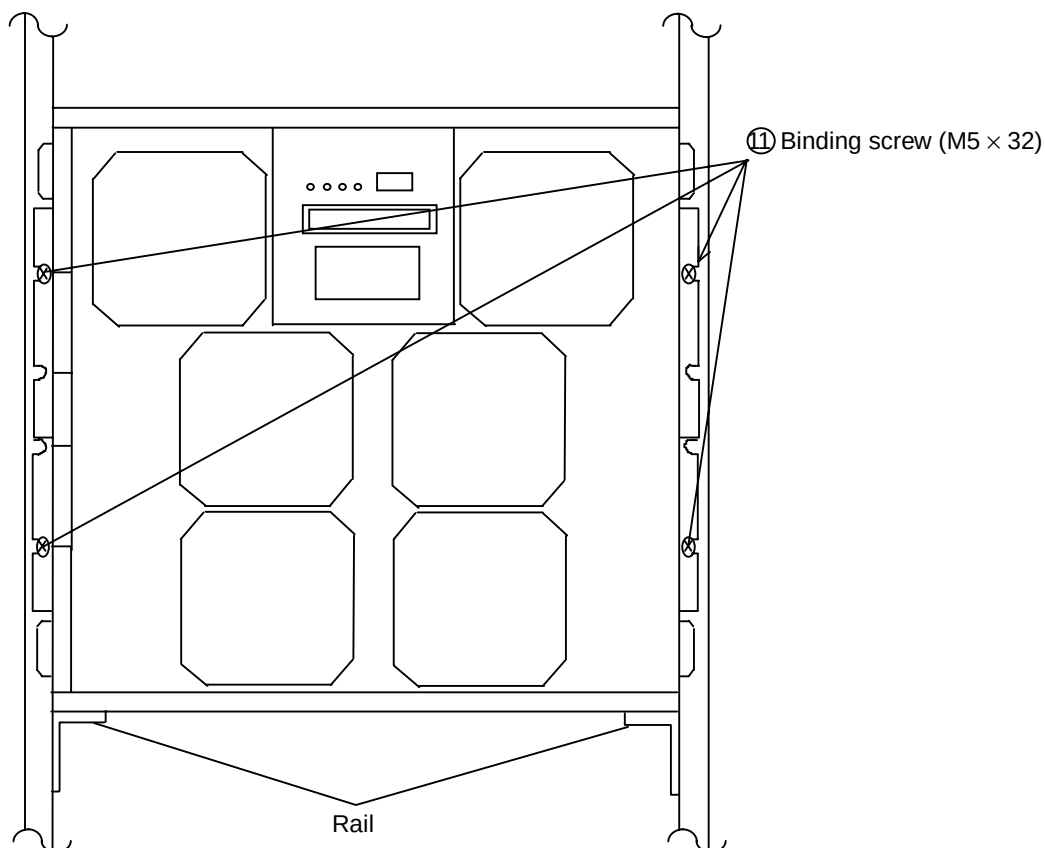

Figure 1.4.8 Securing the Front Side of the Subsystem
1.4.6 Securing the front side of the subsystem (See Figure 1.4.8.)